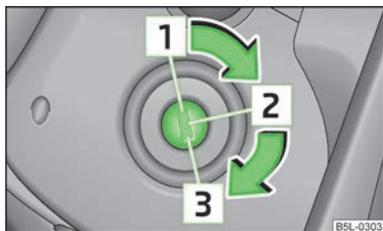

Fig. 95
- When driving, the ignition key must always be in the position **2** » Fig. 95 on page 94 (ignition switched on) without the engine running. This position is indicated by the indicator lights coming on. If this is not the case, it could result in unexpected locking of the steering wheel - risk of accident!
- The starter may only be operated (ignition key position **3** » Fig. 95 on page 94), if the engine is not running. The starter or engine can be damaged if the starter is activated when the engine is running.
If the **steering is locked** and the key cannot or can only be turned with difficulty into the position **2** » Fig. 95, move the steering wheel back and forth and the steering lock will unlock.
- Fully depress and hold the clutch pedal, switch on the ignition **2** » Fig. 95 on page 94 and start **3** - do not operate the accelerator. Depress the clutch pedal until the engine starts.
Switch off the engine by turning the ignition key into position **1** » Fig. 95 on page 94.